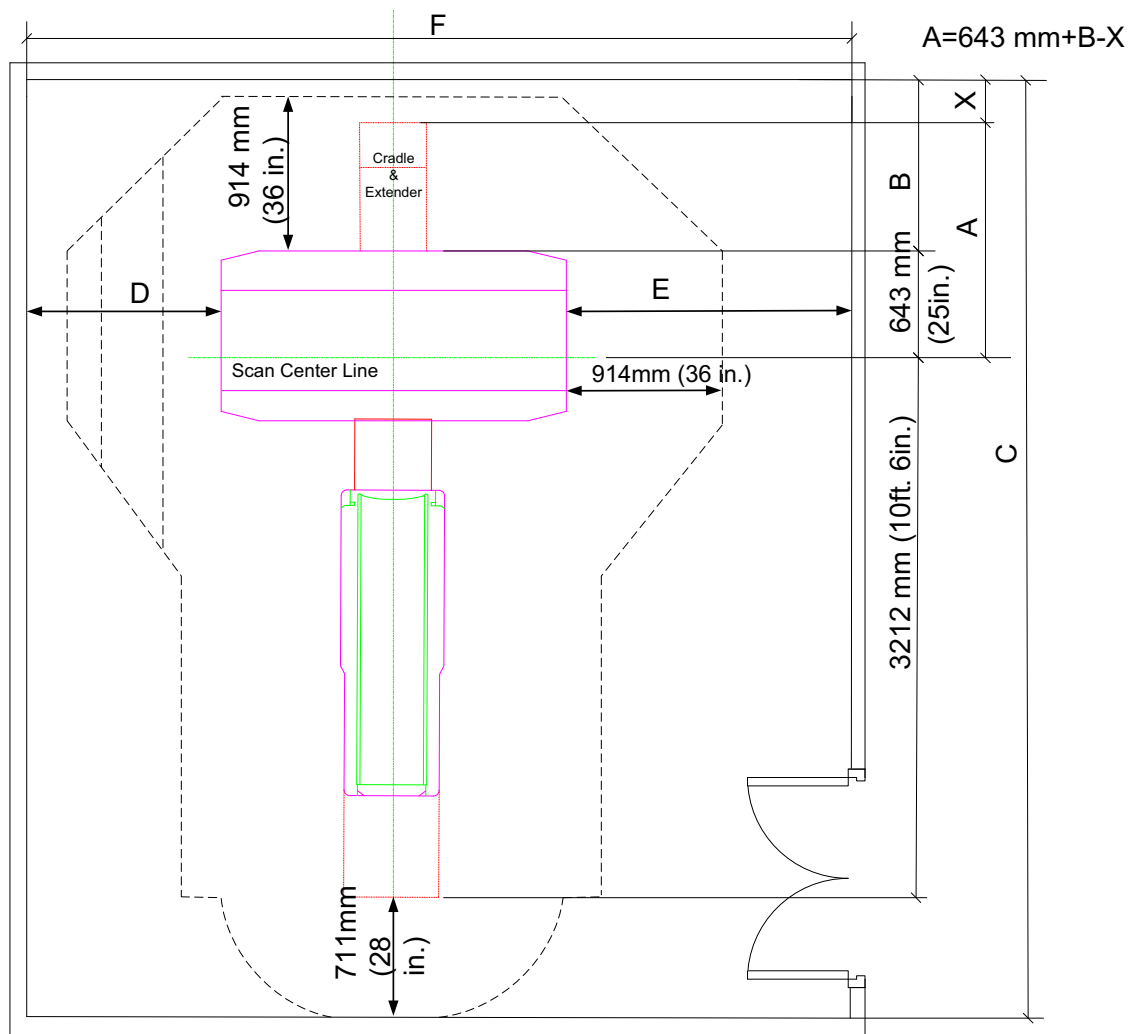

Figure 4-4 Short Footprint Calculation diagram
- 1.) Refer to Figure 4-4 , use floor template with ruler to prearrange the layout and calculate the cradle scannable limitation (A).
- 3.) Record the distance from cradle limitation to wall (X) and cradle scannable limitation (A) for installation.